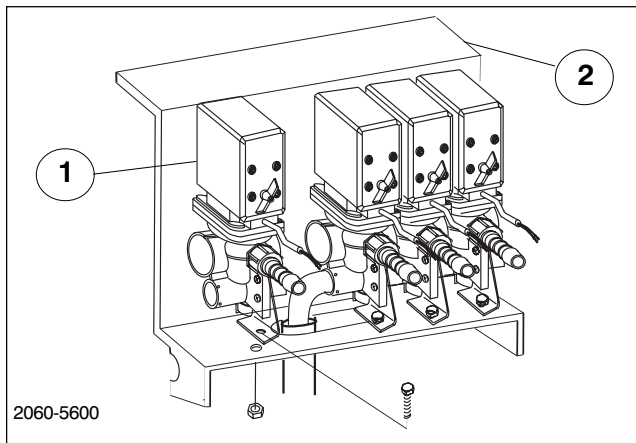

FIG. 9
10. Assemble agitation Valve to Boom Valve Bracket using one (1) 5/16-18 x 3/4 Flange Bolt and one (1) 5/16-18 Flange Nut. (See FIG. 9)